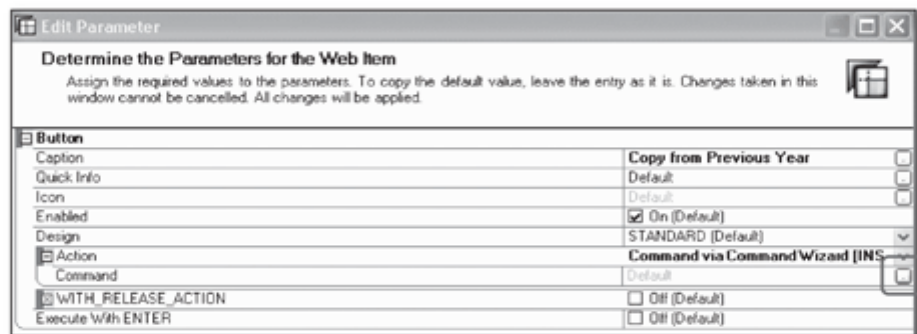

Figure 12.99 Define Parameters for the Copy Button
13. Define the parameters for the button, and click the button shown in Figure 12.99 to go to the Command Wizard.